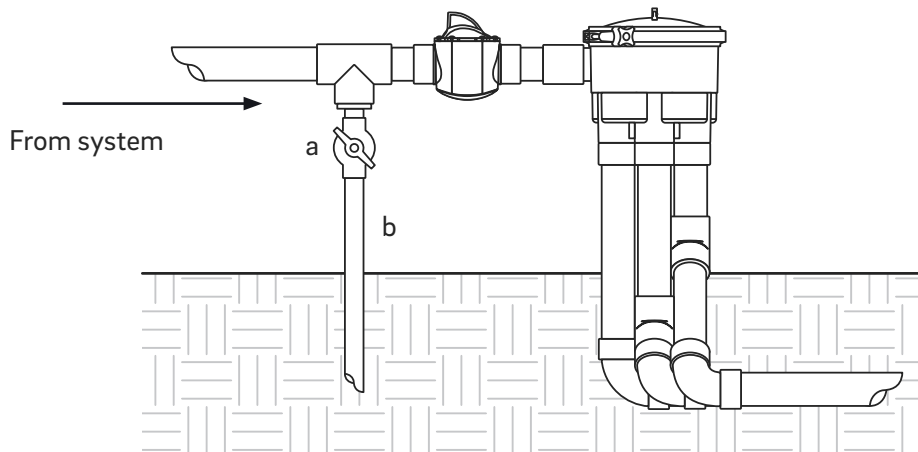

Figure 4
2. To deliver water to the venturi nozzle inside the skimmer, install a Tee fitting on the return line after the filter and before the in-floor valve (Figure 4). Following the branch of the Tee, add a 2-way shut-off valve (Figure 4a) and a minimum of 1 inch schedule 40 PVC (Figure 4b) as the feed line to the QuikSkim's venturi nozzle; reduce the pipe size as needed.
Proper flow to the venturi nozzle can be set by adjusting the shut-off valve installed before the water-valve (Figure 4).
Shut off flow to the venturi line completely by closing the shut-off valve installed on the return line before the water-valve (Figure 4).